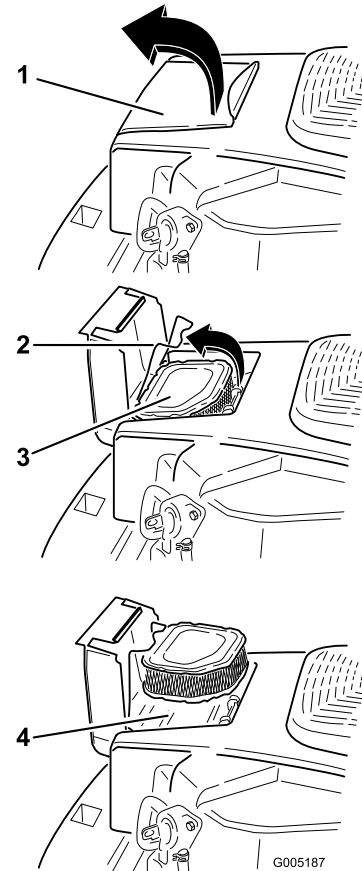

Figure 26
1. Open the air cleaner cover door on the blower housing to access the air cleaner element (Figure 26).
2. Unhook the latch and remove the air cleaner element (Figure 26).